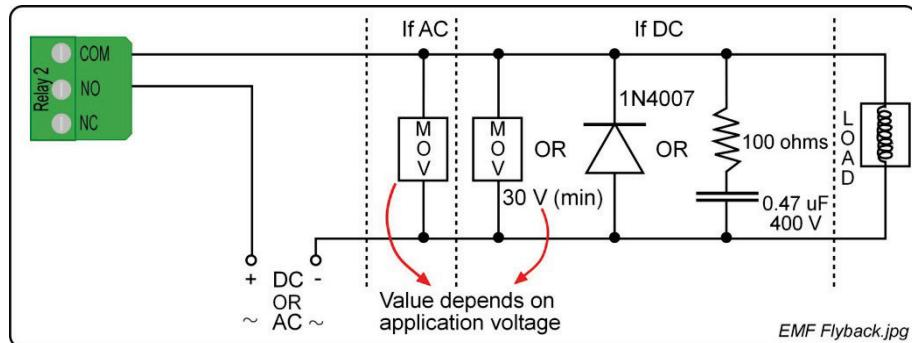

Figure 2: EMF Flyback and Arc Suppression
Snubber devices are recommended for EMF Flyback and Arc Suppression when driving an inductive load with the Relay, see Figure 2.
- NOTE: \* Refer to Figure 2 for Arc Suppression details.